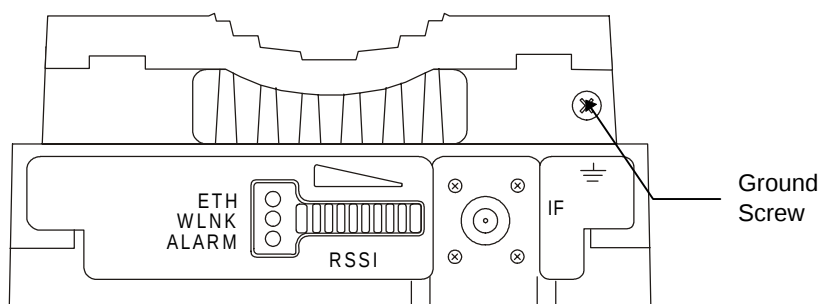

Figure 2-6. SU-RA/RE Outdoor Unit Bottom Panel
The Ground terminal (marked $\oplus$) and the IF cable connector (marked IF) are located on the bottom panel of the SU-RA/RE Outdoor unit, shown in Figure 2-6.
3. The RSSI bar display is located on the bottom panel of the Outdoor unit (refer to Figure 2-6). The eight green RSSI LEDs are used for reading the Received Signal Strength Indication. The higher the number of green LEDs that are ON, the higher the level of the received signal. Rotate the antenna left and/or right until you reach the point of maximum RSSI reading. Make sure that at all times, the front of the antenna faces the general direction of the base station.
To verify correct operation, view the LED indicators located on the bottom panel of the Outdoor unit as shown in Figure 2-6 on page 12.